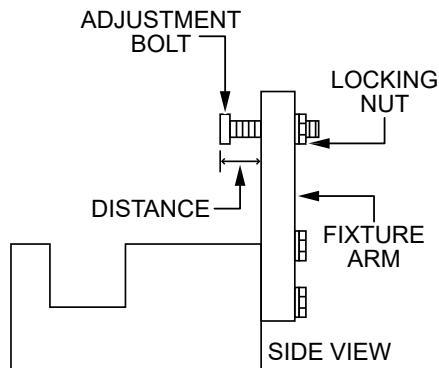

Figure 84. Trowel Arm Adjustment Tool (Side View)
Figure 84 illustrates a **trowel arm adjustment tool**. As a trowel arm is locked into the adjustment tool, the trowel arm bolt is adjusted to where it contacts a stop on the fixture. This will consistently adjust all of the trowel arms, keeping the finisher as flat and evenly pitched as possible.
3. Adjust the fixture adjustment bolt distance shown in Figure 84 to 0.15 in. (3.81 mm).